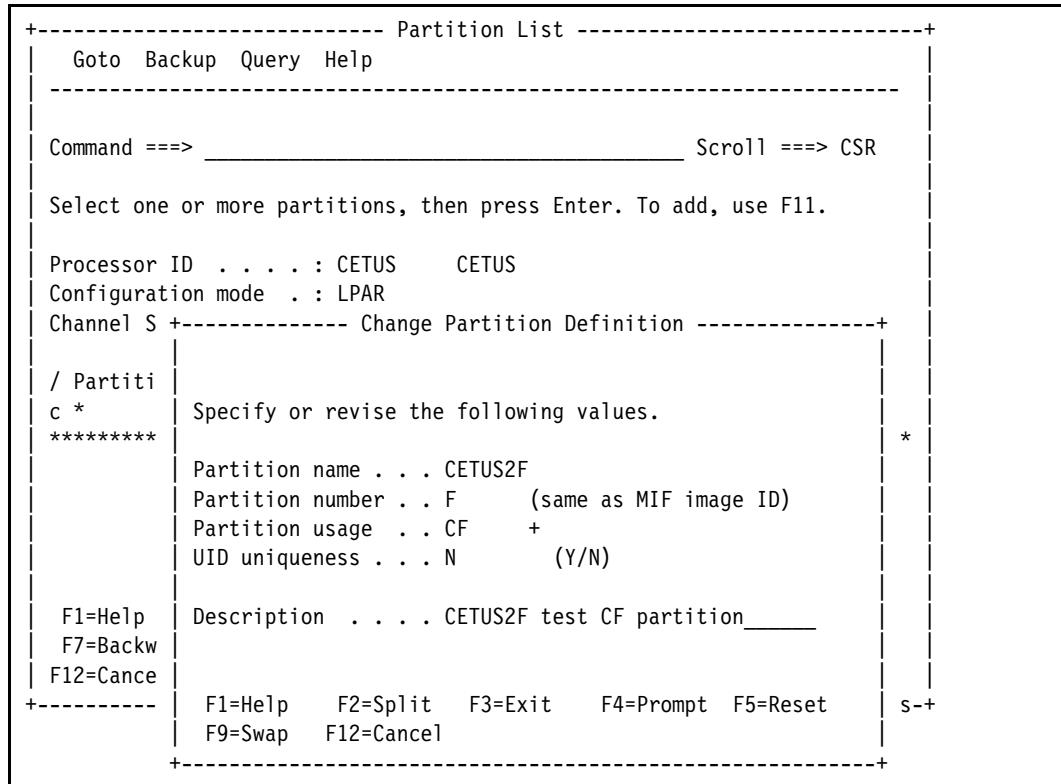

Figure 14-1 Processors: Change Partition Definition, Coupling Facility
5. Make the following updates (Figure 14-1) and press **Enter**: